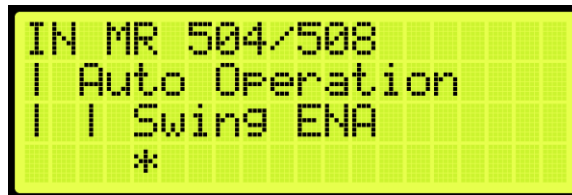

Figure 486: Input Menu – Enable Swing
8. Scroll and select Enable Swing (See Figure 486)